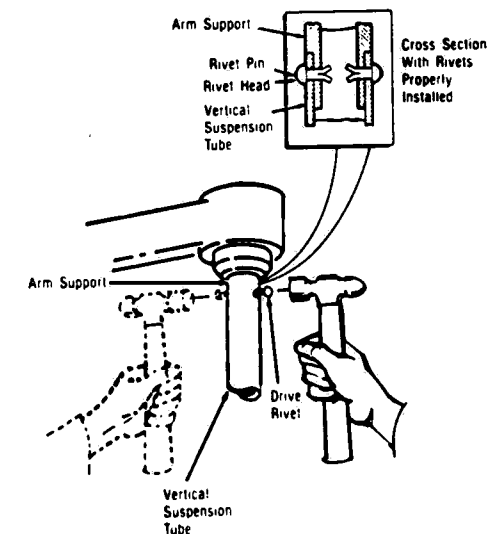

Figure 4-20. SUSPENSION TUBE RIVETS.
11. Insert a round-head drive rivet (29/32 long) into each hole drilled through the support arm spindle and the vertical suspension tube. Using a hammer, tap the protruding rivet pins until they are flush with the rivet heads as shown in the cross-sectional insert on Figure 4-20.